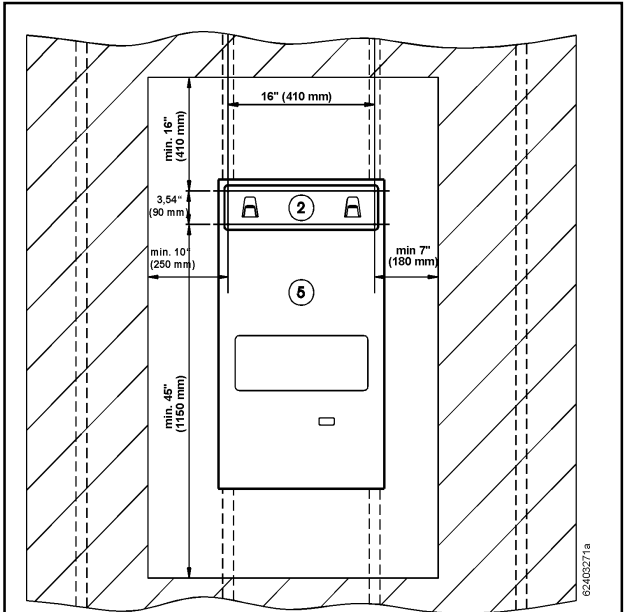

Figure 5A - Clearances for model BMS
The figures 5A and 5B show the proper distances to keep from any obstacle pertaining to the support bracket (2) or to the wall.
1) - Take the support bracket (2) and choose a position with proper clearances, as per Figures 5A & 5B. A minimum clearance of 40" (100mm) is required from the front of the heater.